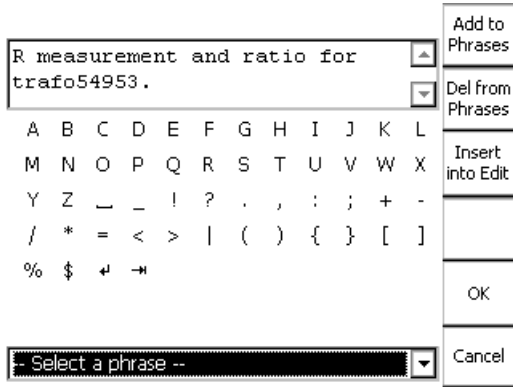

Figure 9-2: CPC 100 String Editor with focus on "Select a phrase"
- ▶ once the template phrase of your choice is highlighted, press **Insert into Edit**. The phrase is then automatically inserted into the upper entry field at the cursor position (refer to Figure 9-2).